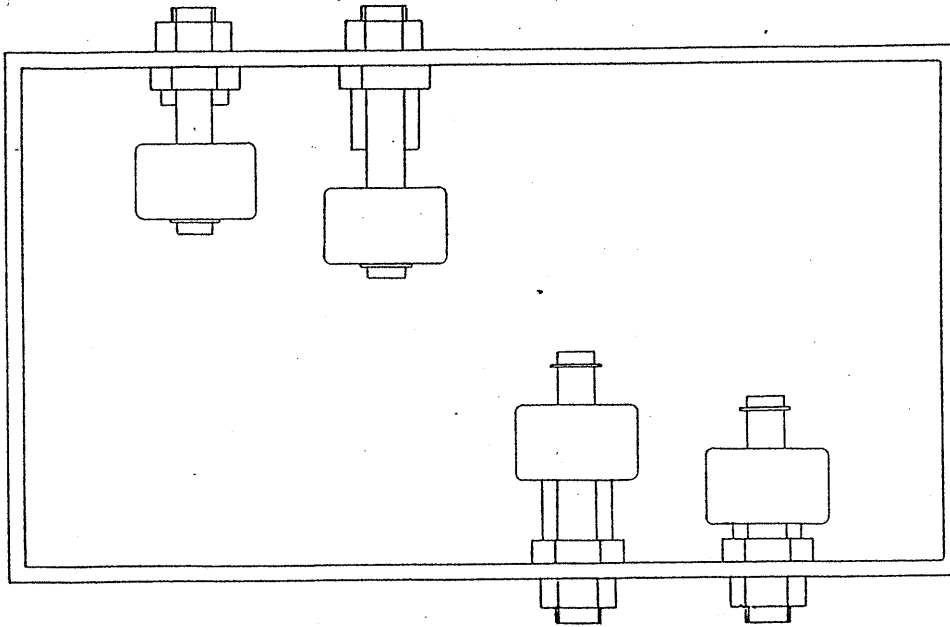

Fig. 6
- o Typical installation examples are shown in Fig. 6.